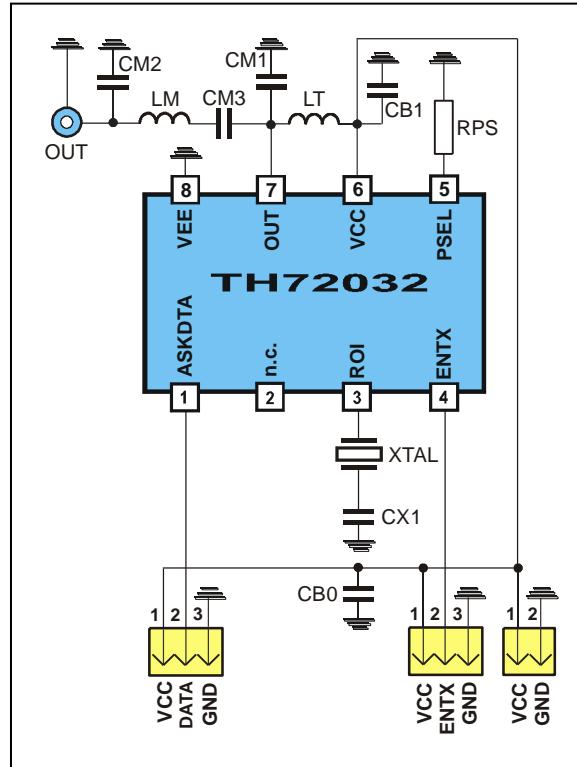

Fig. 17: Test circuit for ASK with 50 Ω matching network
typical values at $T_A = 23\text{ }^\circ\text{C}$ and $V_{CC} = 3\text{ V}$; test circuit shown in Fig. 17, $f_c = 868.3\text{ MHz}$
- Data according to test circuit in Fig. 17 (868.3MHz)
6.1. Test circuit component list to Fig. 17